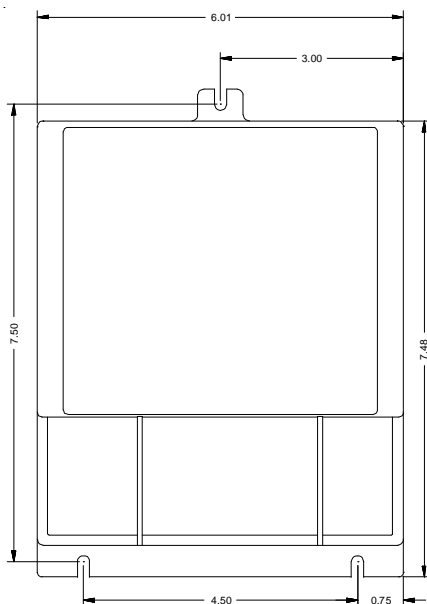

Figure 5
3. Drill three holes according to the following illustration (Figure 5).
4. Using three #6 3/4-inch long screws (field-supplied), mount the twinning control vertically with the connectors at the bottom as shown in Figure 5. Do not over tighten the screws. **DO NOT** expose the control to water or temperatures below -40°F or above 120°F.